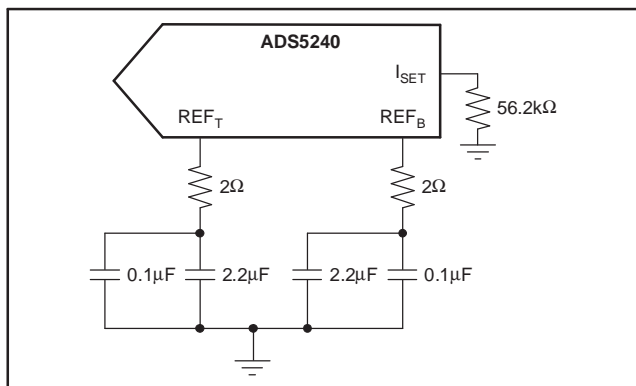

Figure 15. Internal Reference Mode
When using the internal reference mode, a 2Ω resistor should be added between the reference pins (REF_T and REF_B) and the decoupling capacitor, as shown in Figure 15. If the device is used in the external reference mode, this 2Ω resistor is not required.
- Deleted Figure 15 (Input Circuitry) of *Driving the Analog Inputs* section in Theory of Operation. 16
- Added Figure 15 (Overall Structure of the Sample-and-Hold Circuit). 17